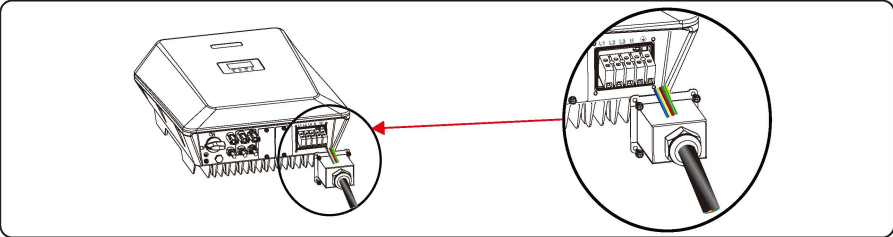

Figure 5.6 Dealing AC output cable
Step 3 Insert AC output wire through waterproof terminal block to AC connector reserving appreciate wiring length shown in Figure 5.6.